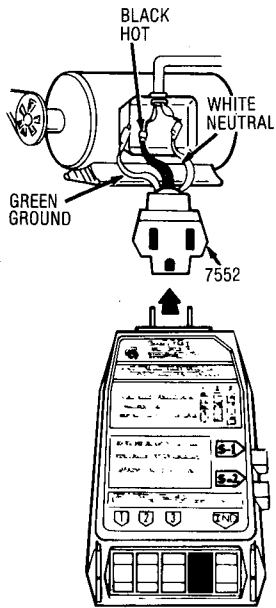

Figure 36
Step 3. Connect the white clip lead to the neutral or "common" terminal and the black clip to the unmarked or "hot" terminal of the system. Check wiring lamps for "correct wiring" (Fig. 36).